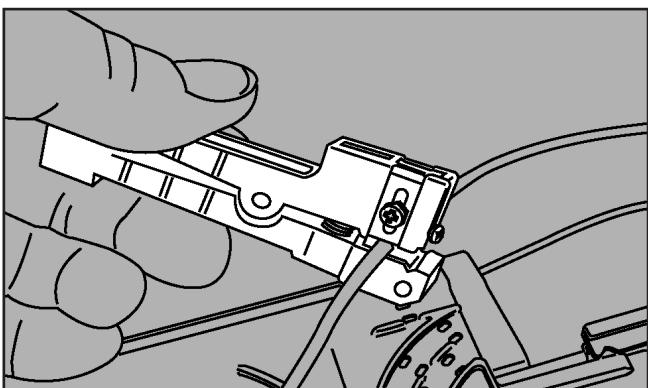

Figure 6
6. At the mark, use approved company tools and practice to remove the loose buffer tube to expose the fibers. (Figure 6)